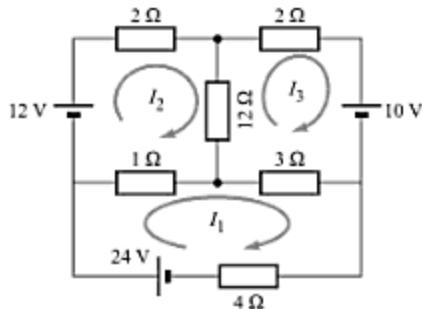

Fig. 3.73
14. Determine the current through the $1\text{-}\Omega$ resistor in the circuit shown in Fig. 3.73, by using mesh analysis.